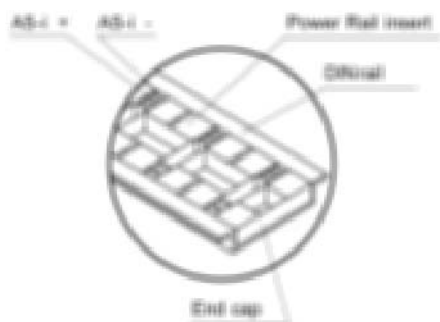

Fig. 1: The Power Rail
1. The PR 05 is 50 mm long and segmented into 20 mm sections (see Fig. 1). It can be shortened to a minimum of 40 mm or lengthened using the VE-PR linking connector.